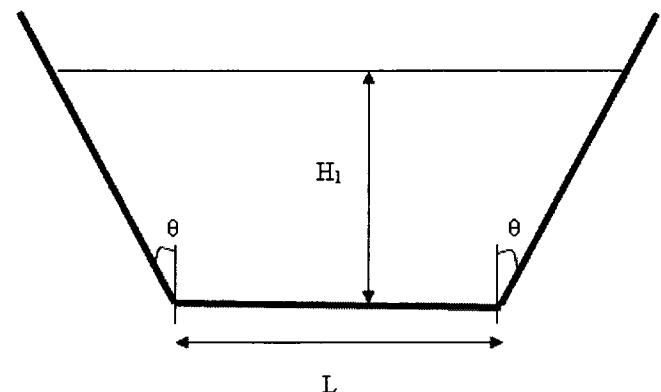

Figure Q5 / Rajah S5
- (c) Referring to Figure Q5, channel flow is controlled by a trapezoidal notch to ensure the full supply of $2.0 \text{ m}^3/\text{s}$ flows over the notch at a head of 1.2 m measured over the crest. At head of 0.6 m, a discharge of $0.6 \text{ m}^3/\text{s}$ passes over the notch. Calculate the base width, L and angle of side slopes, θ of the notch. (8 marks)